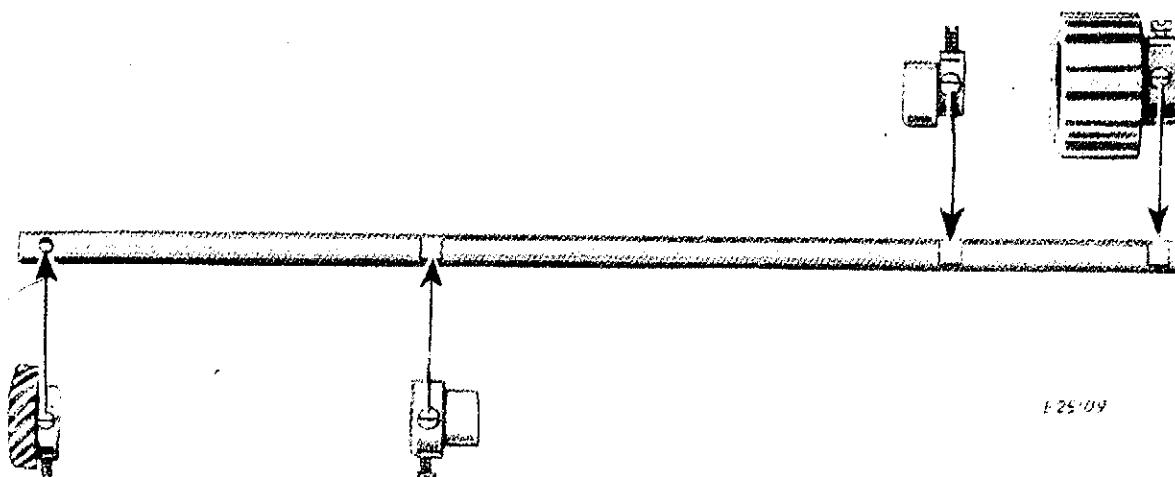

Fig. 53. Location of Gear, Eccentrics and Sprocket on Hook Driving Shaft
**CAUTION:** To locate eccentrics and sprocket properly refer to **Fig. 53.**